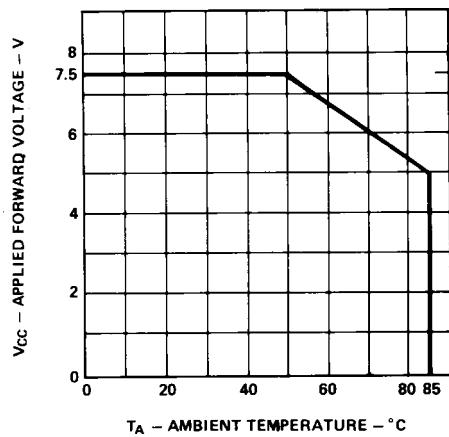

Figure 3. Maximum Allowed Applied Forward Voltage vs. Ambient Temperature  $R\theta_{JA} = 175^\circ\text{C/W}$ . 5 Volt Devices.
- Derate from  $T_A = 50^\circ\text{C}$  at 0.071 V/°C, see Figure 3.